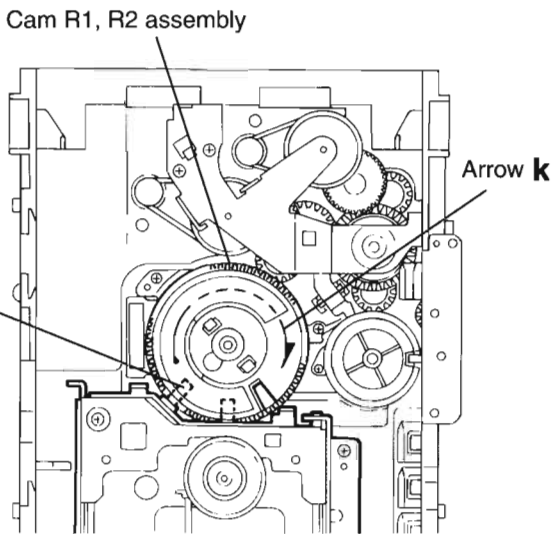

Fig.11
**Removing the CD traverse mechanism (See Fig.11 and 12 )**
1. For dismounting only the CD traverse mechanism without removing the CD loading mechanism assembly, align the shaft "j" of the CD loading mechanism assembly to the position shown Fig.11 while turning the cam R1 and R2 assembly in the arrow direction "k" .